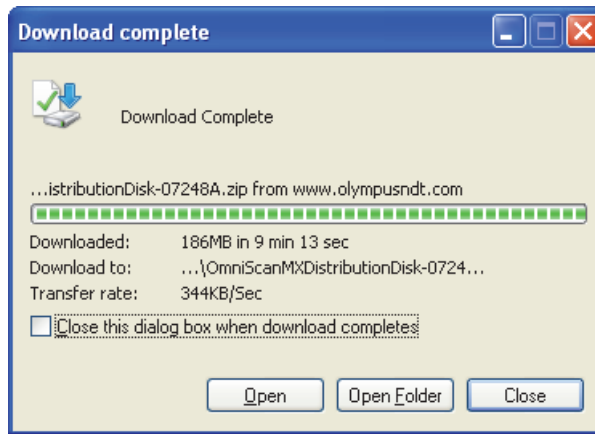

Figure 4-5 The Download complete dialog box
- In the **Download complete** dialog box, click **Open** (see Figure 4-5 on page 68).